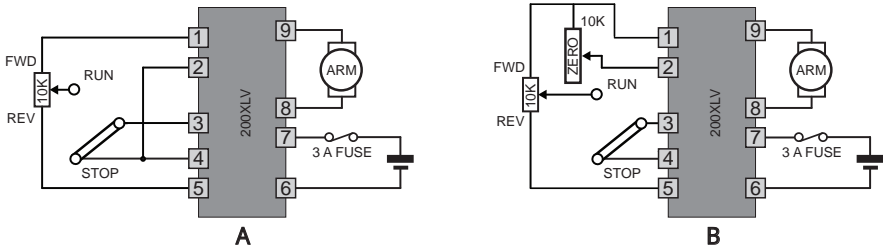

Figure 7 BASIC CONNECTION - Forward/stop/reverse by centre zero
In Figure 7 A, adjust the 10K potentiometer for  $\pm 5$  V full-scale.
In Figure 7 B, adjust the SPEED potentiometer for  $\pm 5$  V full-scale.
In Figure 7 B, the external source common is not at the same potential as the supply 0 V.
1. Therefore, this commissioning procedure requires the drive set-up shown in "Figure 7 BASIC CONNECTION - Forward/stop/reverse by centre zero" on page 8.